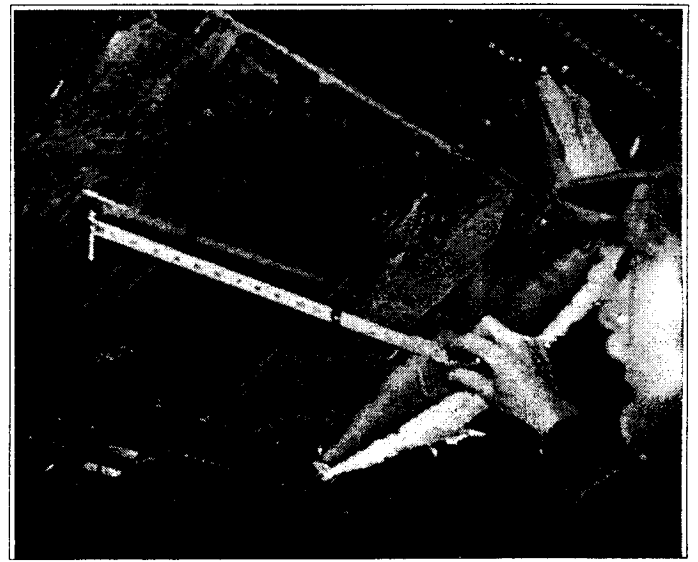

Figure 4
- d. For rectangular and oval ducts 24 inches and larger insulation shall be additionally secured to bottom of ducts with mechanical fasteners. Fasteners shall be spaced on 18 inch centers and not more than 18 inches from duct corners. See figure 4.
- f. Insulation shall be impaled on the mechanical fasteners and pressed into the adhesive. See figures 4 and 5.